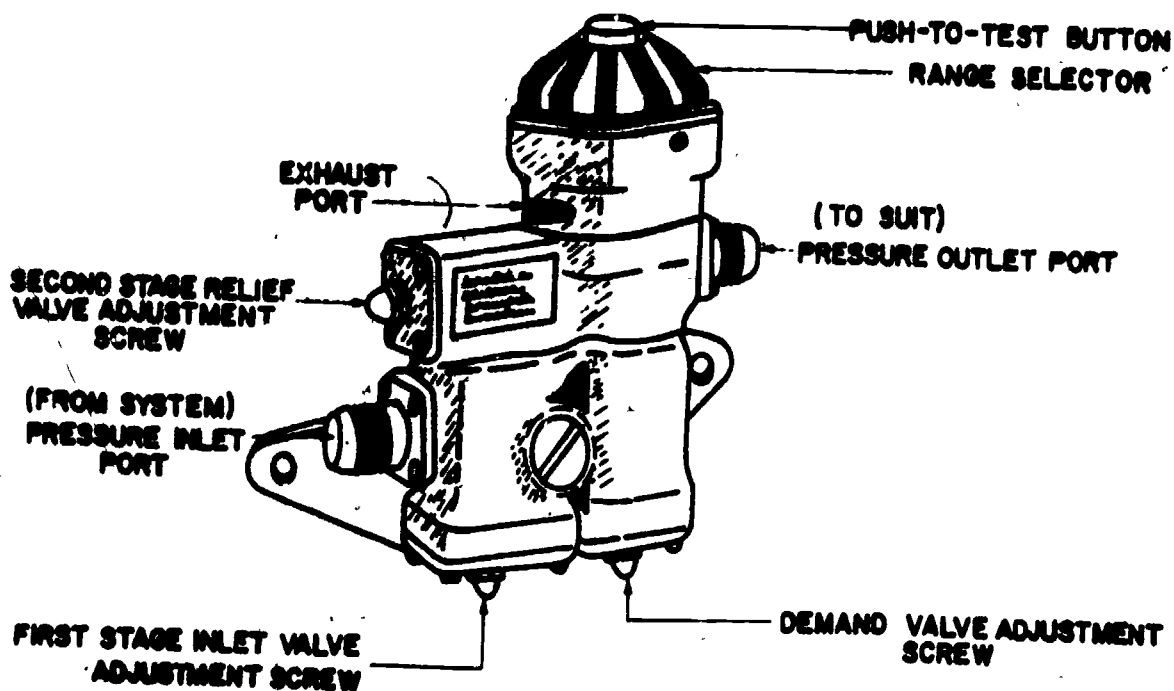

Figure 1. Anti-G Suit Valve (Part Number 10050).
2. Locate the first stage relief valve on the anti-G suit valve. Refer to figure 1 of this text. Use the adjustable jaw wrench to remove the valve.
5. Slowly increase air pressure until gage P3 indicates 30 to 35 psi. If manometer does not remain at the specified air pressure, notify your instructor. Do not make any adjustments at this time. Read the adjustment procedures in TO 9P5-3-12-3. Figure 2-1, index 19 of the TO locates the adjustment screw on the anti-G suit valve. Figure 1 of this workbook also locates the adjustment screw. Refer to figure 2-1 of the TO. Nut (index 14) must be removed. Loosen lock nut (index 15) before turning the adjustment screw. Turn the screw clockwise or counterclockwise until the desired pressure is indicated on manometer M4. After the adjustment is made, the adjustment screw must be held in place before tightening the lock nut. After the lock nut has been tightened, install and secure nut (index 14).
7. If the pressure setting is not within the maximum and minimum range, notify your instructor. Do not make any adjustments at this time. Read the adjustment procedures in TO 9P5-3-12-3. Figure 2-2, index 6 of the TO locates the adjustment screw on the anti-G suit valve. Figure 1 of this workbook also locates the adjustment screw. Refer to figure 2-2 of the TO. Nut (index 1) must be removed. Loosen lock nut (index 2) before turning the adjustment screw. Turn the screw clockwise or counterclockwise until the desired pressure is indicated on manometer. After the adjustment is made, the adjustment screw must be held in place before tightening the lock nut. After the lock nut has been tightened, install and secure nut (index 1).
12. Arrange the parts on the workbench in an orderly manner. You should have: a hose, a ground laboratory test kit, two (2) caps, and hand tools. The trainer should have: an anti-G suit valve, a hose connected between 7A and D6, and a hose connected to 7B.